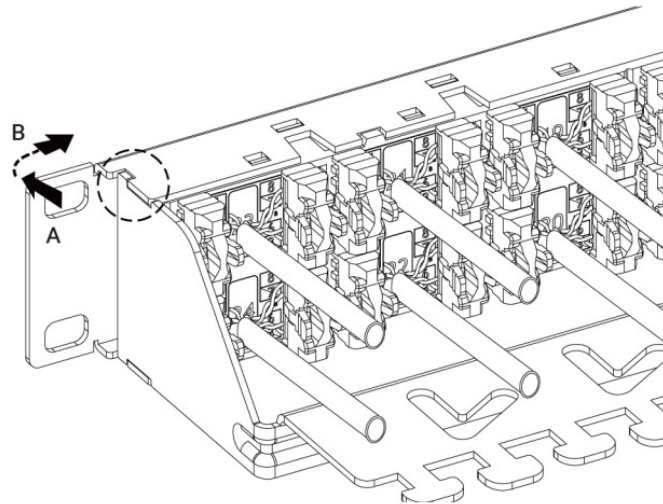

FIGURE 3-5. TERMINATED CABLES RESTING ON TOP OF THE CABLE SUPPORT BAR
**NOTE:** Make sure that all the terminated horizontal cables rest on top of the cable management crossbar. See Figures 3-5.